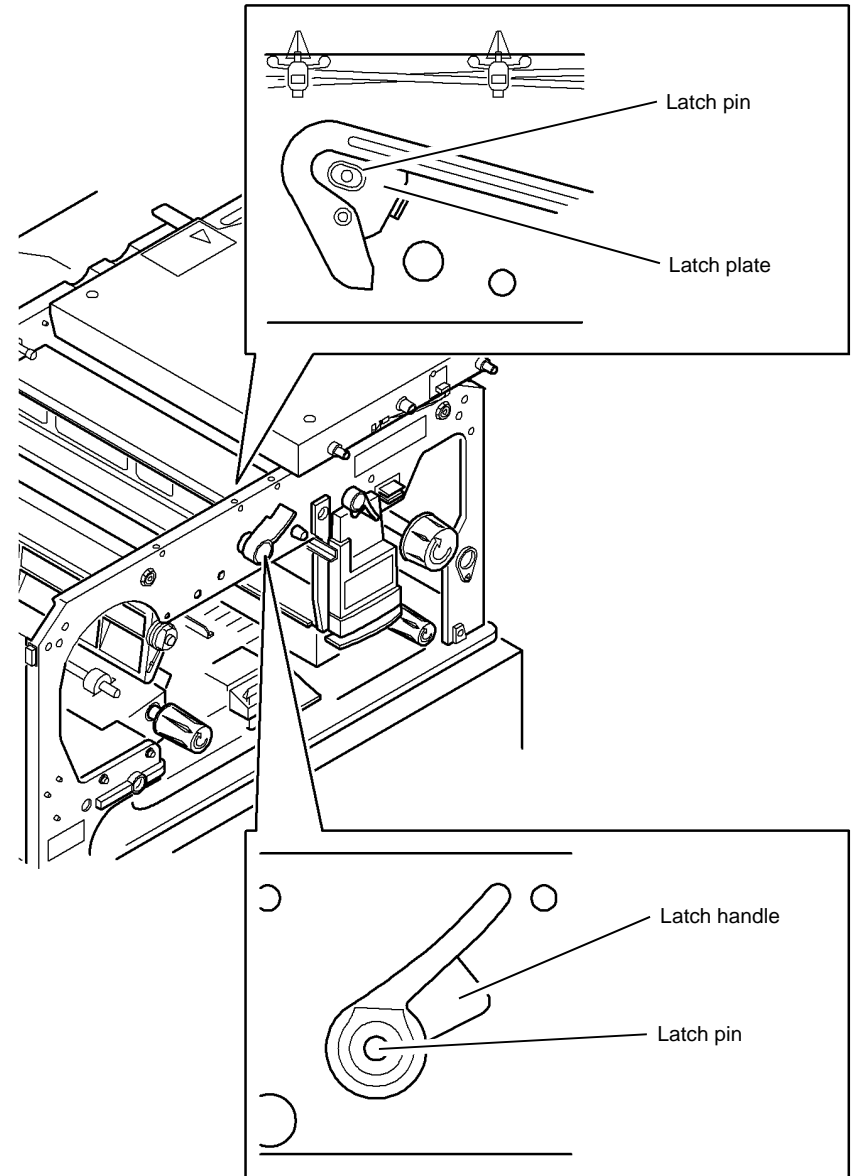

Figure 4 Latch alignment
3. Refer to Figure 4. Check the following: